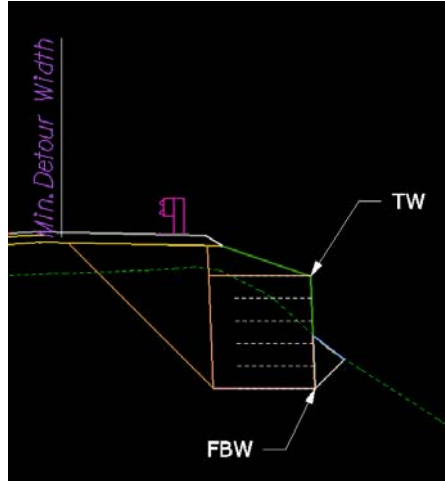

Figure 1-7: Search Text Locations
6. Under *Search Criteria*, click on the button next to *Proposed Finish Grade*. Add the *Lv Names* to the *Proposed Finish Grade* dialog. The *Proposed Finish Grade* must travel from catch point to catch point, and it must pass through the text points *TW* and *FBW* (See Figure 1-7 for text locations). The following levels must be specified for a MSE retaining wall: *X_P_Fillslope* and *X_P_MSE_Wall_Toeslope*. Close the dialog box.
8. Add the search text for the front Bottom of Wall (FBW) as shown below. Click on the Add tab to add the text to the search text box. Click on the apply button to generate the chains and profiles based on the locations of the TW and FBW text as shown in Figure 1-7.